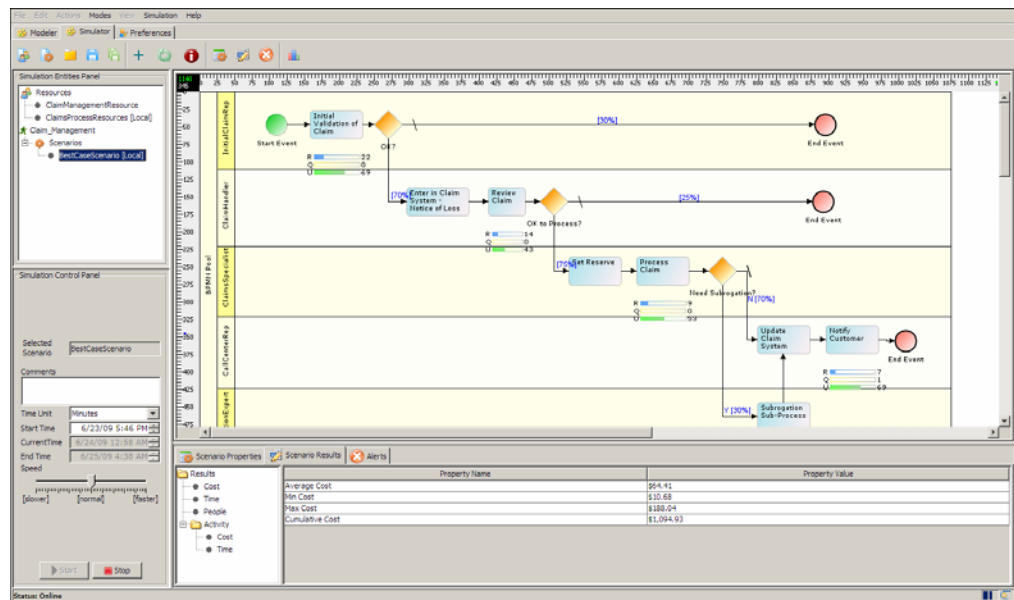

Figure 10.18: Simulation Progress
8. To start the simulation, click *Start* button. The simulation scenario execution starts. A graphical representation is shown in the graph canvas and the result of the simulation is shown in *Simulation Result* panel (see Figure 10.18).